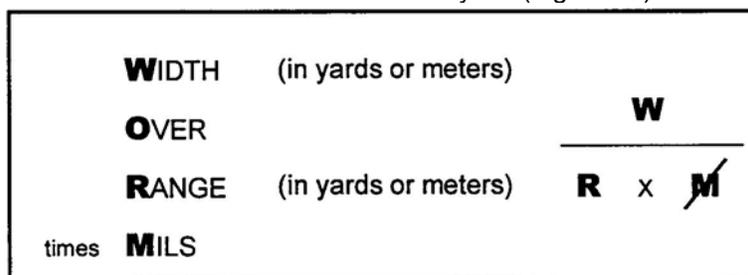

Figure 10. WORM memory aid.
- (4) You can use the word "WORM" as a memory aid (Figure 10).